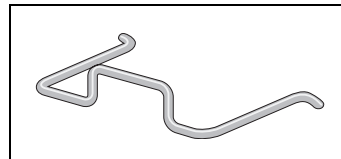

Figure 38. Power Cord Retaining Clip
1. Locate the power cord retaining clip, shown in Figure 38.